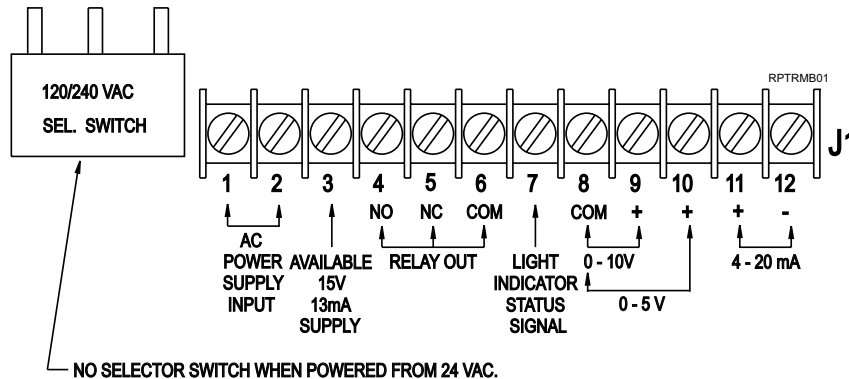

Fig.1 Terminal connections
- C - Relay adjust potentiometer: A SPDT relay output is available at terminals 4, 5, and 6 of connector J1 (See Fig. 1). The contacts are rated 5A at 30 Vdc or 120 Vac, 4A at 240 Vac resistive. Adjustment of the relay set pressure is by means of a potentiometer located behind the plug marked "RELAY". Turn the potentiometer (clockwise to raise the pressure setpoint) until the desired pressure is reached. The relay is set at the factory to energize on falling pressure. To change the logic, see section 5.1.2. and refer to section 5.2.2 for a precise calibration procedure.
5.3.1 - Connect a voltmeter across terminals 8 (ground terminal) and 10 (5.00 Volt Output) of connector J1 on the Main Board (refer to Fig. 1).